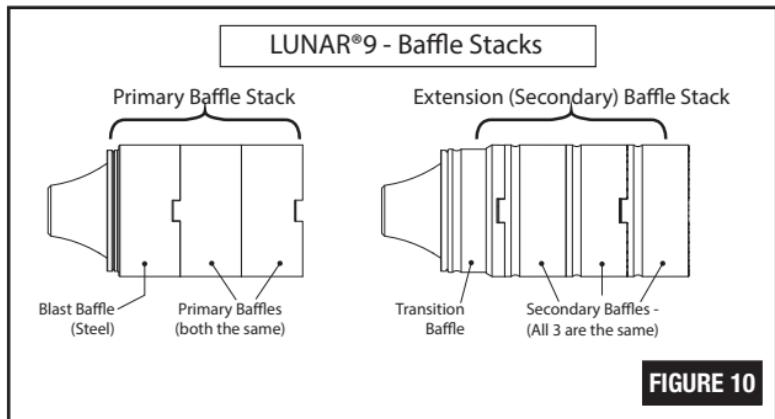

FIGURE 10
1. Align and stack baffles as shown (FIGURE 10). Take note of which baffles go in which stack - as they are not interchangeable between baffle stacks. Set baffle stacks aside.